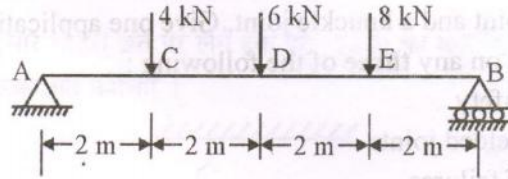

Figure-2
- (b) Draw shear force and bending moment diagrams for the simply supported beam shown in figure-2.